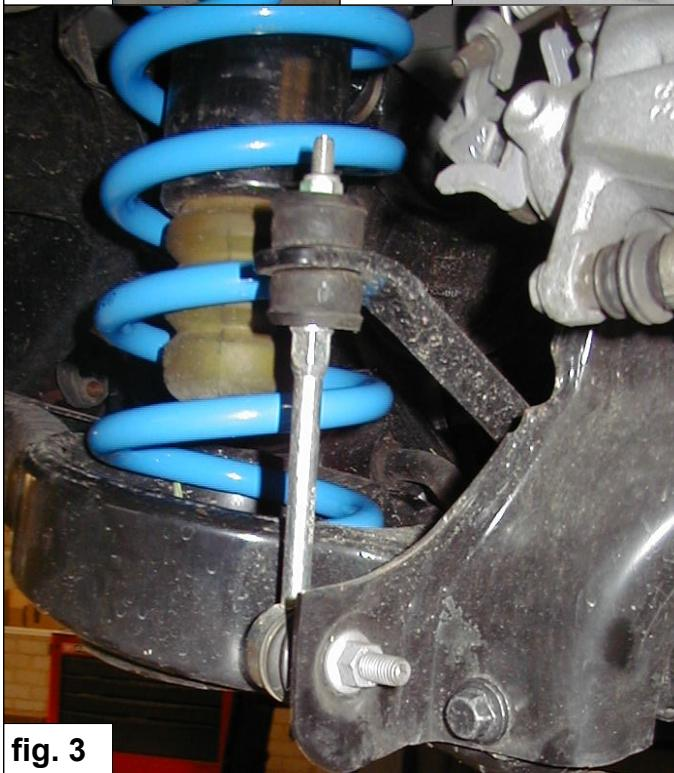

fig. 3
6. Support the wheel arm and mount the wheel arm bolt. See fig. 3.